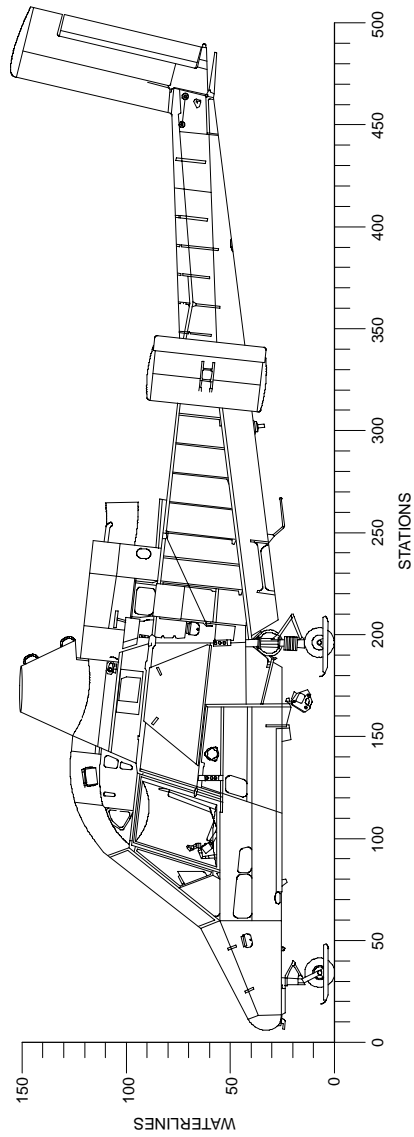

Figure 7-1. Stations and Waterlines
Figures 7-1 through 7-5 indicate pertinent weight and balance data as follows:
- Figure 7-1 Stations and waterlines